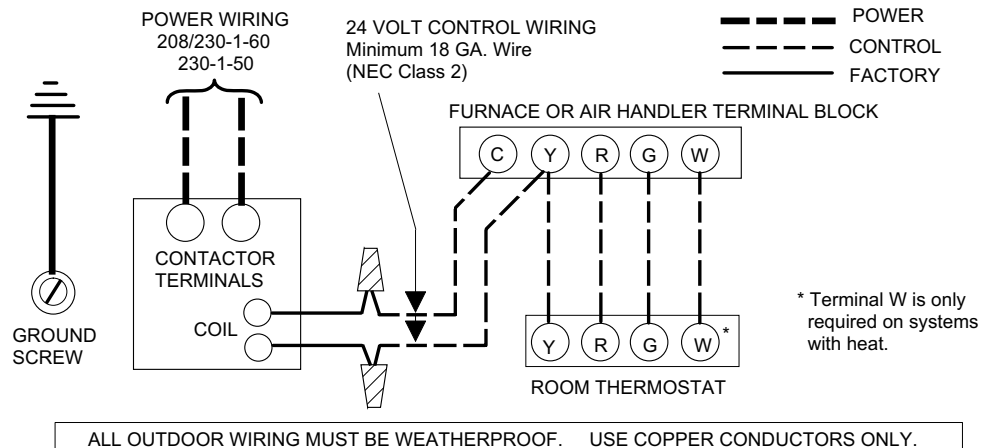

FIGURE 5 - TYPICAL FIELD WIRING
2. Using wire nuts, connect low voltage wiring as shown in Figure 5.
Connect thermostat and control package wiring as shown in Figure 5 and per the instructions packed with those pieces.